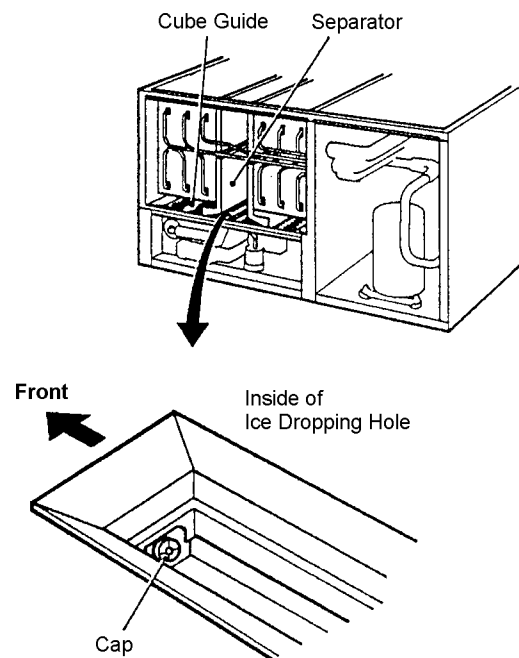

Fig. 3
- 3) Drain the Water Tank by removing the Insulation Panel and the Cap located on the front bottom part of the Ice Dropping Hole. See Fig. 3.
5) Drain the Water Tank by removing the Cap located on the front bottom part of the Ice Dropping Hole. See Fig. 3.